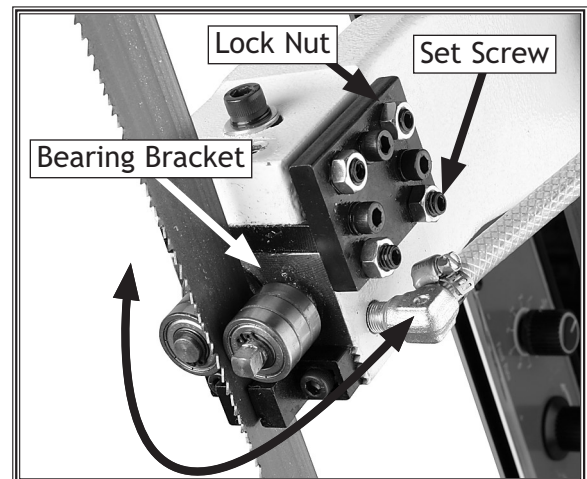

Figure 40. Bearing block pivot.
4. Adjust the blade by loosening the lock nuts and turning the set screws. This will cause the bearing bracket to pivot (see **Figure 40**).